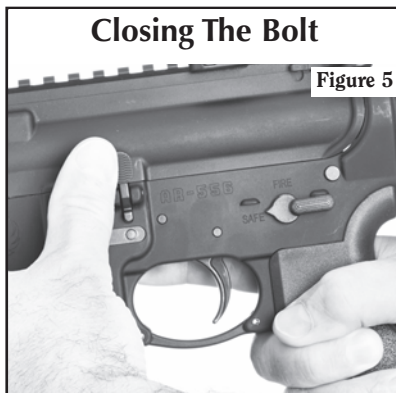

Figure 5
2. Push the top part of the bolt catch toward the lower receiver and the bolt carrier will release. (See Figure 5.)